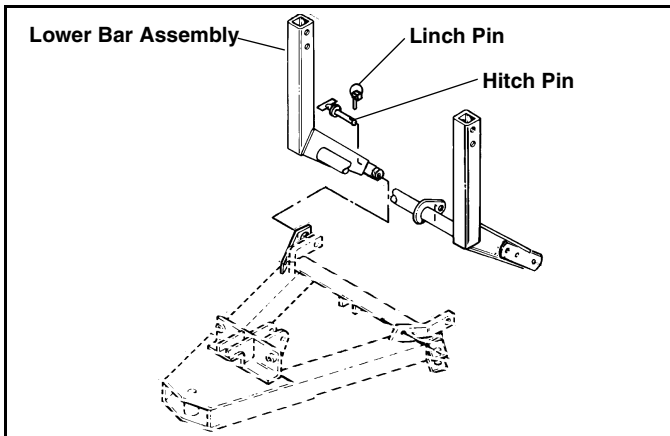
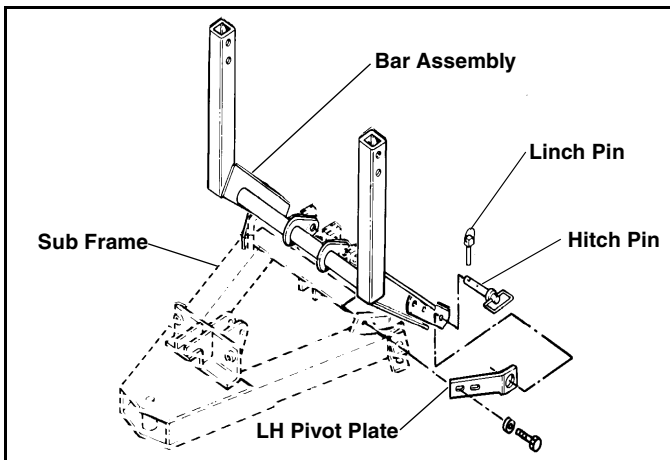

Figure 3
Figure 4
6. Mount Lower Bar Assembly to Main Plow Frame by sliding bosses on Pivot Bars into holes on Pivot Plates. Use long Hitch Pins (#30) to locate and secure. Reuse Linch Pins. (See Figure 3) & (See Figure 4).